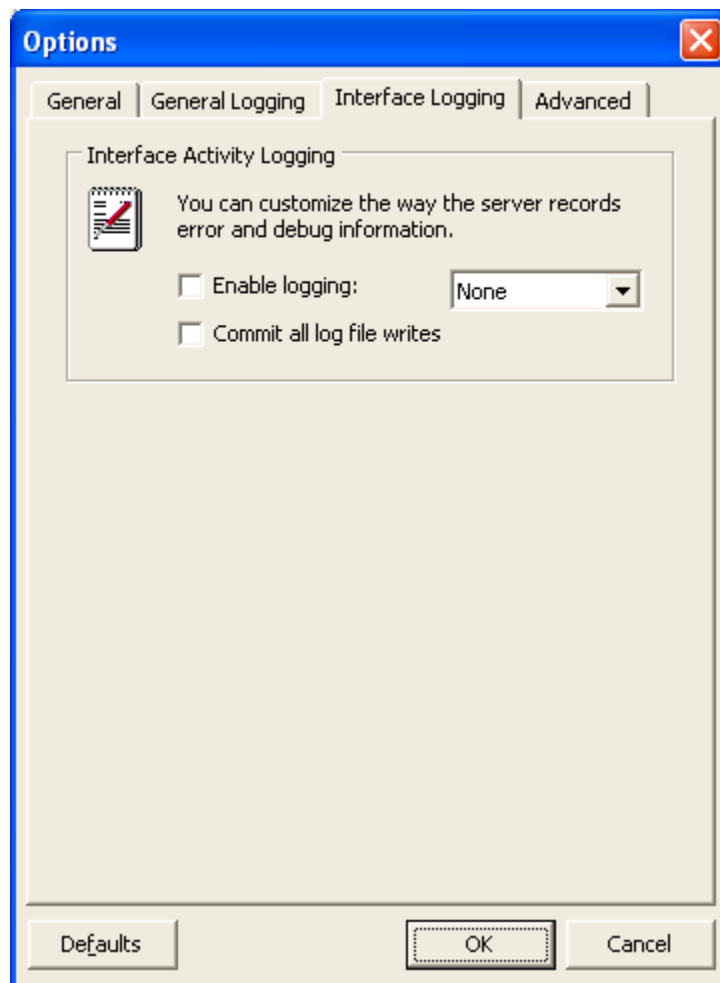

Figure 50 - Interface Logging Options Tab
3. From the **Options** window, select the **Interface Logging** tab (Figure 50).